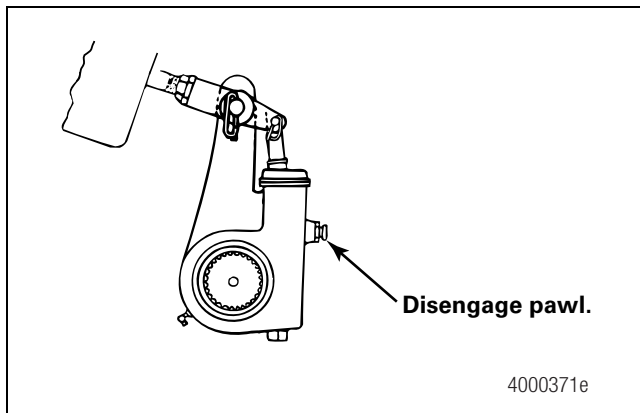

Figure 7.22
2. Use a wrench to turn the adjusting nut COUNTERCLOCKWISE until the brake shoes contact the drum. Figure 7.22. Then back off the adjusting nut in the opposite direction 1/2 turn for drum brakes or 3/4 turn for disc brakes.